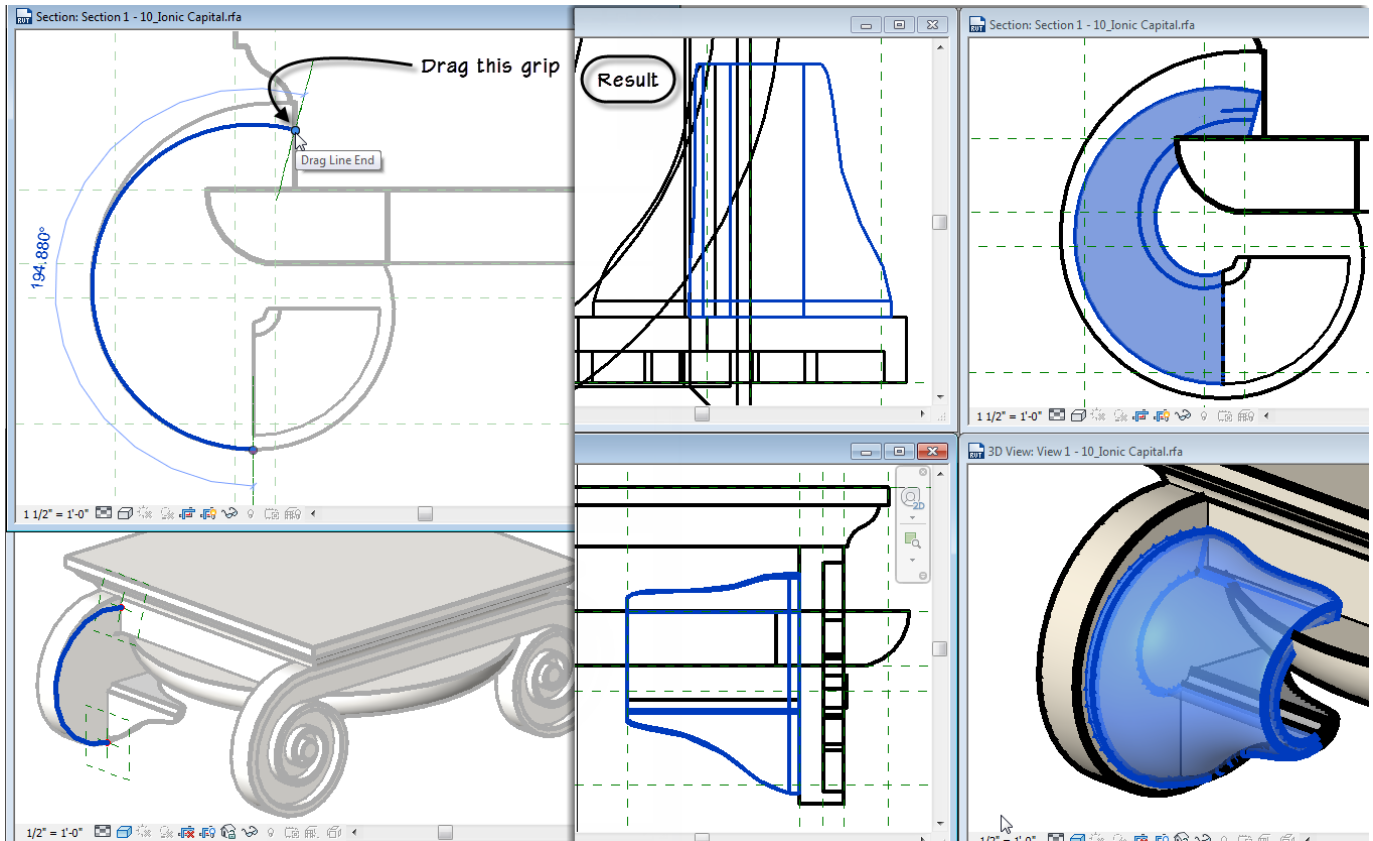

FIGURE 26—ADJUST THE PICKED PATH OF THE SWEEP BLEND
- ⇒ Grips will appear at both ends. Drag the grip handle at the top until it curves around and snaps to the abacus above (see the left side of Figure 26).
- ⇒ Click the Finish Edit Mode button twice (see the right side of Figure 26).